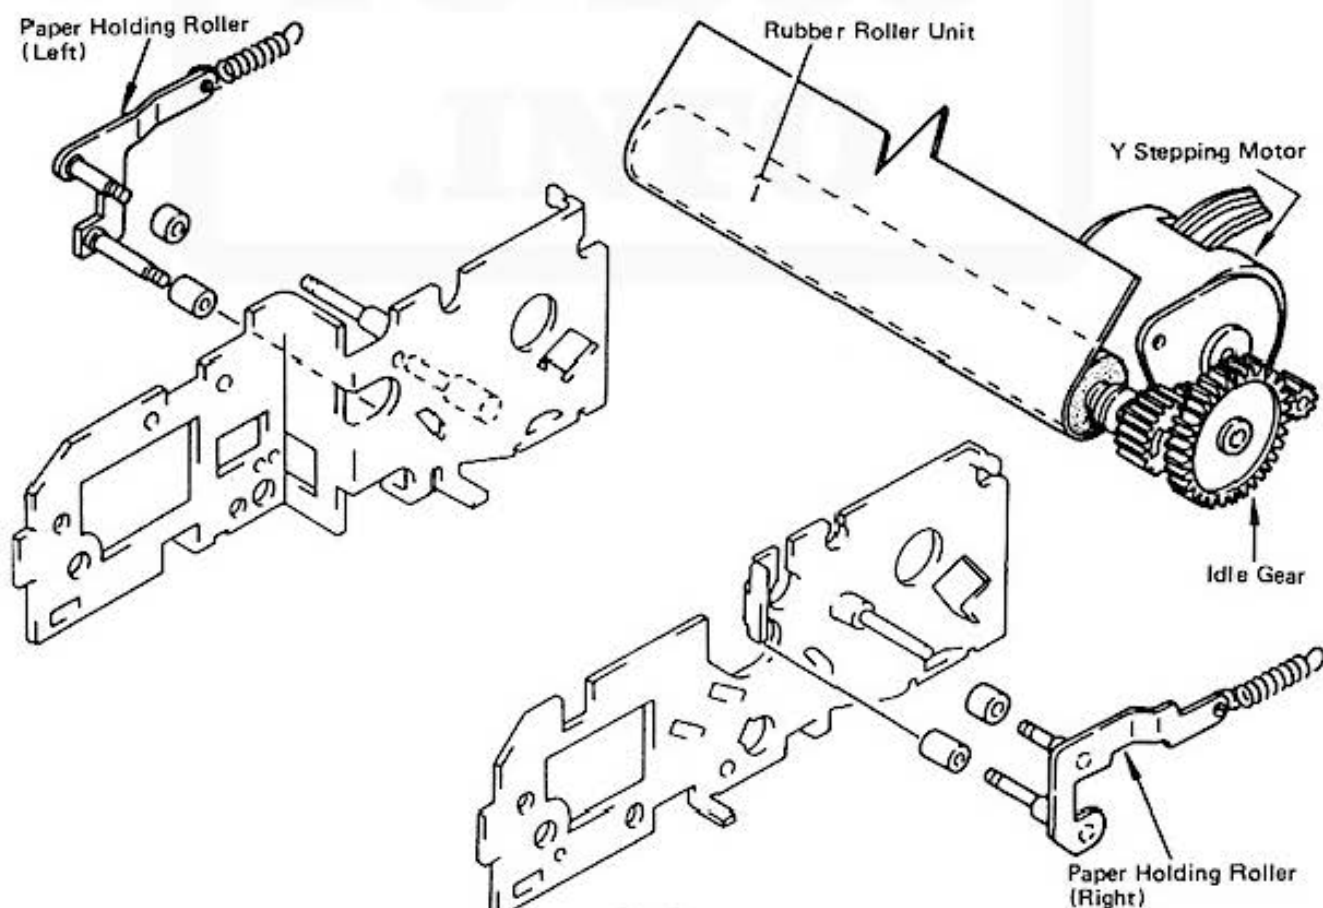
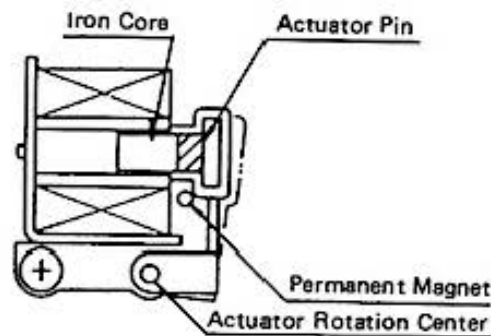

Fig. 2
Fig. 3
<p>The wire must be stretched in the order described below:</p> <ol style="list-style-type: none"> <li>1) As shown in Fig. 1, the spring must be pressed against the side plate using a finger tip with the knot of the wire in alignment with the side plate at point (A).</li> <li>2) Next, thread the leading edge of the wire through the pulley (B) and the protrusion (C).</li> <li>3) As shown in Fig. 2, align the slit (D) of the bobbin gear so that it should on a line drawn between the bobbin gear shaft (E) and the idler gear shaft (F).</li> </ol>  <p style="text-align: center;">Fig. 2</p> <ol style="list-style-type: none"> <li>4) Wind the wire around the bobbin gear for one and half a turn, then thread it through slits.</li> </ol>  <p style="text-align: center;">Fig. 3</p>